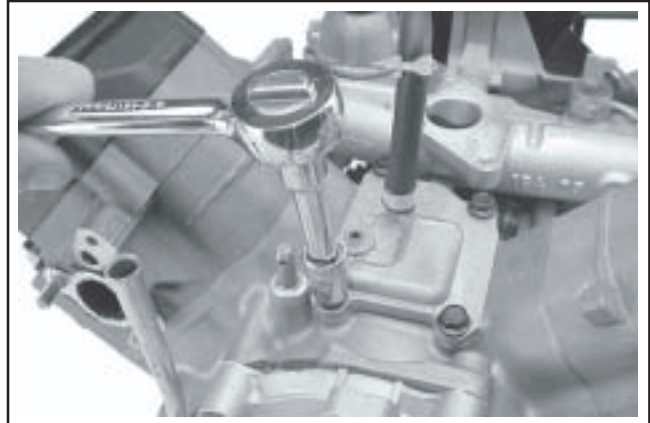

Figure 9-25. Removing the Breather Cover Screws.
1. Remove the four hex. flange screws securing the breather cover to the crankcase. See Figure 9-25.